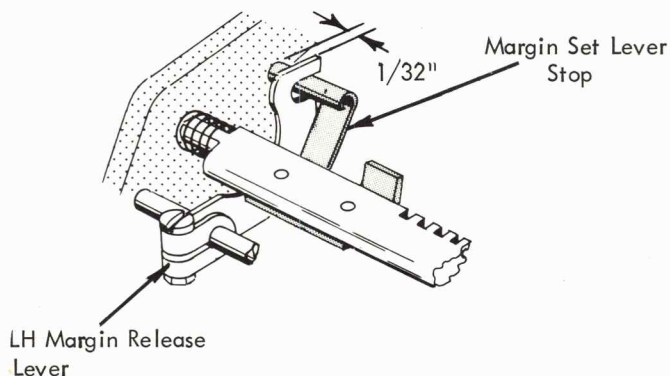

FIGURE 178. Margin Rack (Late)
1. Laterally so that  $1/32"$  of the rolled pin on the margin release lever (Fig. 178).
- b. Late - Position the margin set lever stop (Fig. 178) left or right on the margin rack so that it will clear the margin stop by  $.001"$  to  $.010"$  when the margin stop pin is fully seated in the extreme left hand tooth of the margin rack.